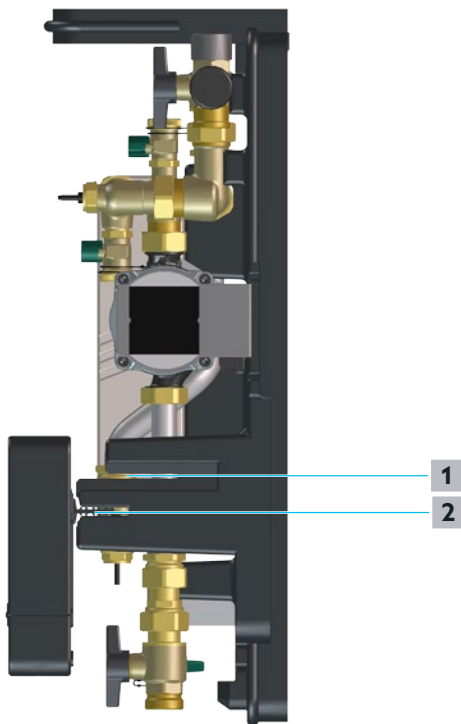

Fig. 28: Mounting position
- 3 Turn the controller and fix it in the mounting position as shown in Fig. 28 on page 42.